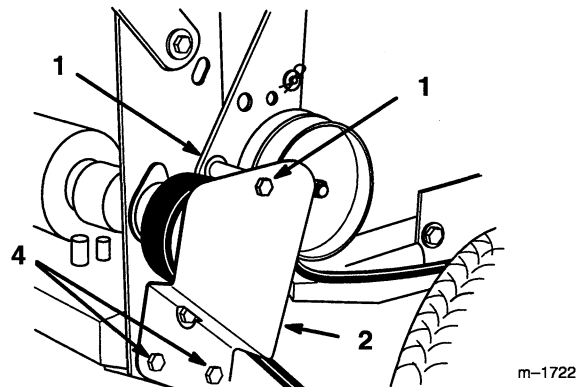

Figure 29
1. Remove top capscrew securing idler support and idler bracket to rear frame (Fig. 29).
2. Loosen bottom two mounting screws enough to allow belt to pass between drive pulley and idler support (Fig. 29).